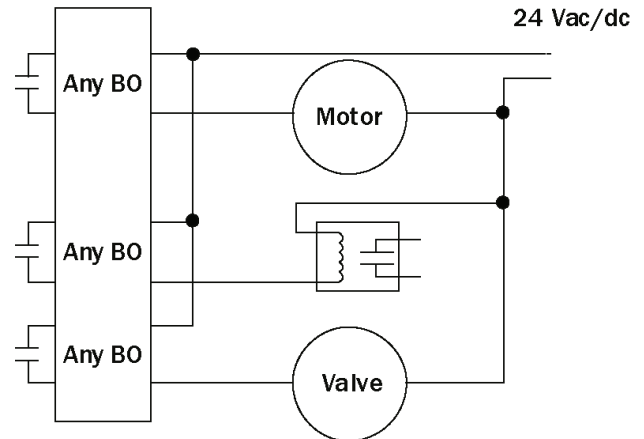

Fig. 37 — Binary Output Diagram
- Connect the binary output wiring to the screw terminals on the I/O Flex 6126 controller and to the controlled device (Fig. 37).